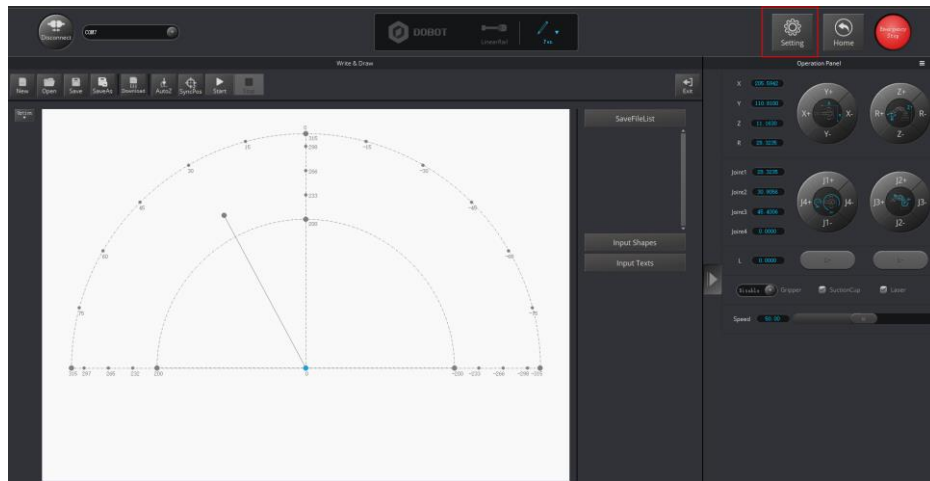

Figure 5.53 Click Setting
1. Click **Setting** on the **Write & Draw** page, as shown in Figure 5.53.